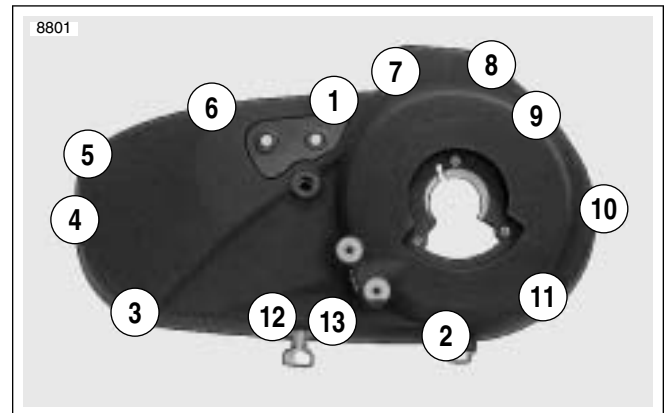

Figure 6-5. Primary Cover Tightening Sequence (Typical)
4. See Figure 6-5. Tighten fasteners to 100-120 **in-lbs** (11.3-13.5 Nm) in sequence shown.